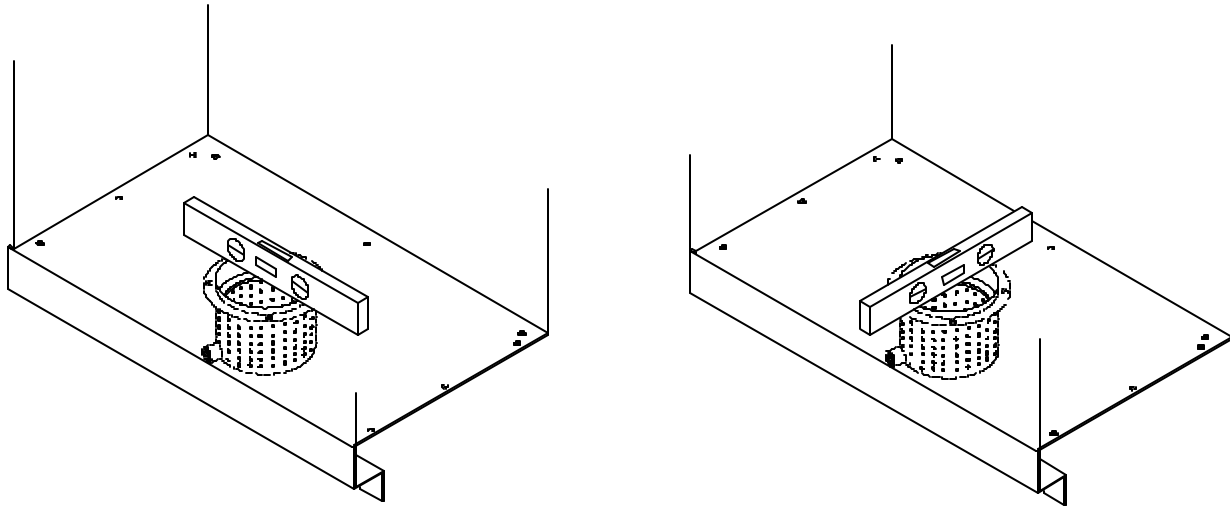

Figure 11 : Levelling the burner
- Put the level in the middle of the burner parallel to the door. (See figure 11-a). Screw or unscrew the adjustable legs until perfect level has been reached. Use a $7/16''$ (10 mm) key.
- Then put the level in the middle of the burner so that it is parallel to the sides (See figure 11-b). Screw or unscrew the adjustable legs until perfect level has been reached. Use a $7/16''$ (10 mm) key.